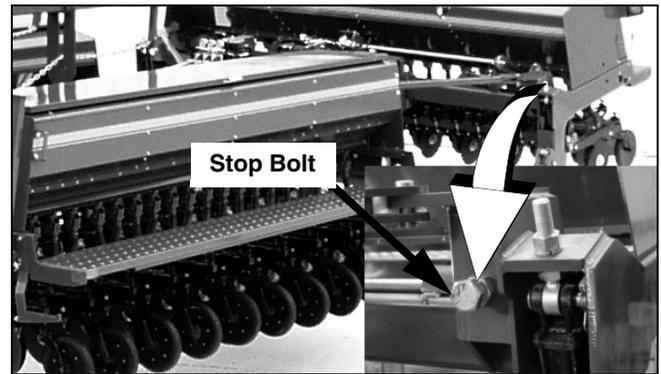

Figure 35
Refer to Figure 35
2. Pull forward against blocks to rock wing frames back. Pull forward until stop bolts are firmly against toolbars. See Figure 35 for stop bolt location.